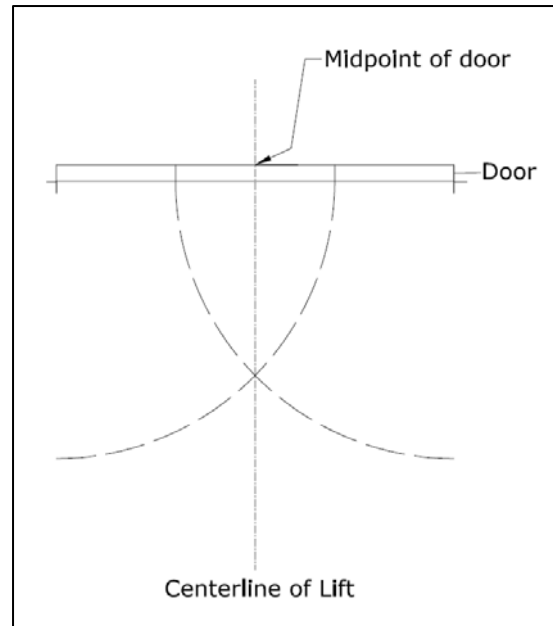

Figure 3. Chalk line
- 5.2.6 Measure the specified distance (126") to draw a second chalk line at 90° for locating the lift towers. **Refer to Figure 3.**